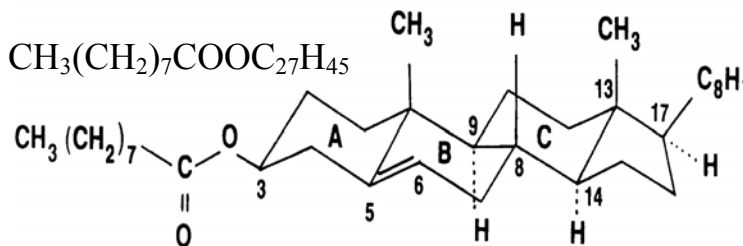

Fig. 5. Chemical structure of cholesteryl pelargonate
- 2) Show the bottle containing the blend of COC and CP. In their original forms, COC is a waxy, nearly clear chemical at room temperature, whereas CP is a white powder. The chemical structure of CP is shown in Fig. 5. We heated equal parts (by weight) of these chemicals to 100°C, melting them together to form the blend that is contained in the bottle.